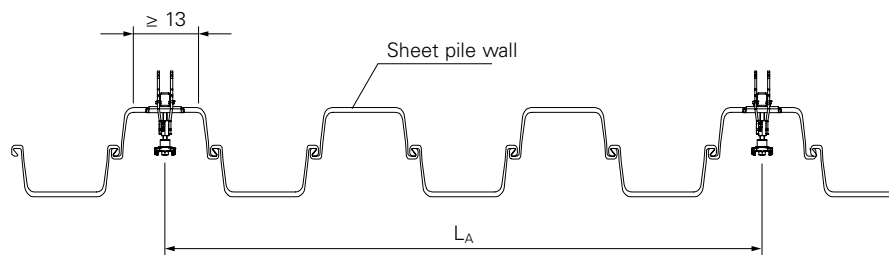

Fig. A2.10
- Centre distance  $L_A$  depends on the length of the side mesh barrier, see section Selection. (Fig. A2.10)
- Support surface of the sheet piling:  $\geq 13$  cm. (Fig. A2.10)